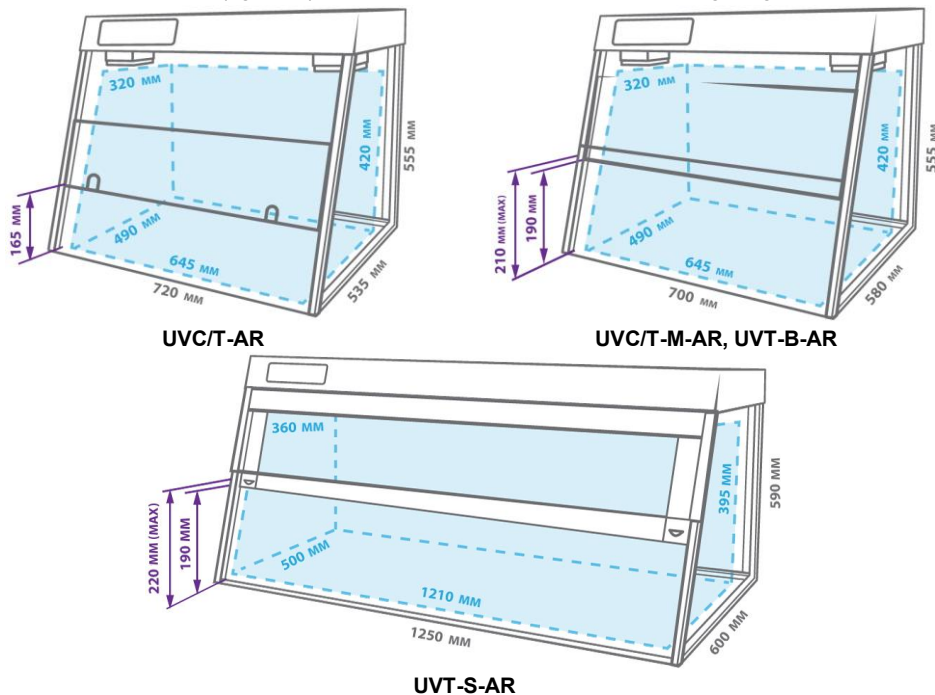

Figure 7. Box dimensions
6.5. Box dimensions (figure 7). Outer and inner dimensions, opening heights.